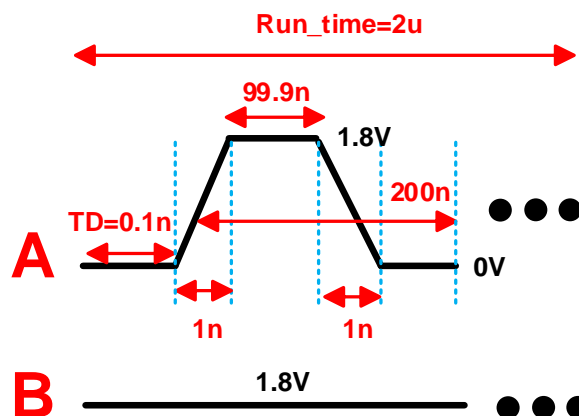

Figure 10. Input signals
**3C** : Consider the circuit in **3B** with the two input signals, A and B, illustrated in Fig.10. However, the input order of 2-input static NAND gate can affect the delay. Please derive the propagation rising delay ( $t_{pdr}$ ) and the propagation falling delay ( $t_{pdf}$ ) of NAND first to get the correct input order. **Clearly present your procedure with explanation and state your assumptions, if any.**